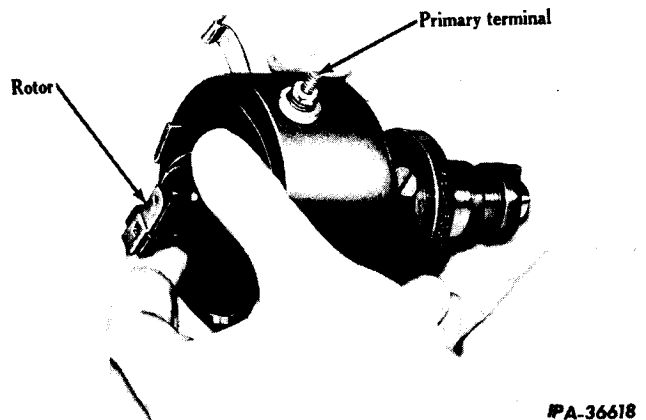

Fig. 4 - Removing Distributor Housing Cover and Felt Washer (IH Model K Shown, Others Similar)
6. Remove the housing cover and felt seal rotating the cover will ease removal (Fig. 4).